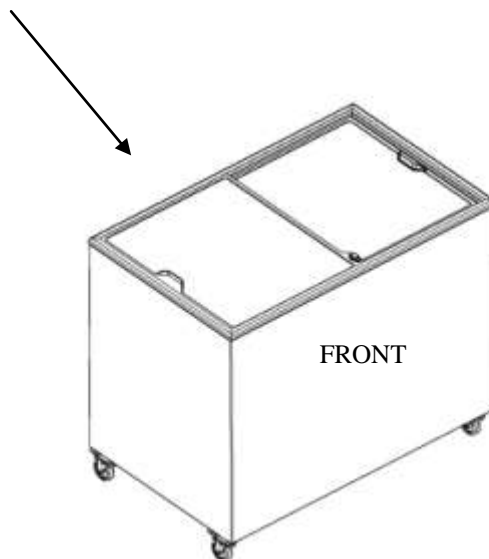

Figure 4
- Complete the assembly of the glasses by moving it to the left side until the end. (Figure 4)